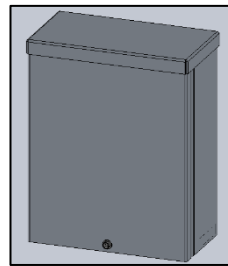

FIG. 3 - REMOTE DRIVER BOX
2. REMOTE DRIVER BOX WITH DRIVER INSTALLED (as shown in FIG. 3)